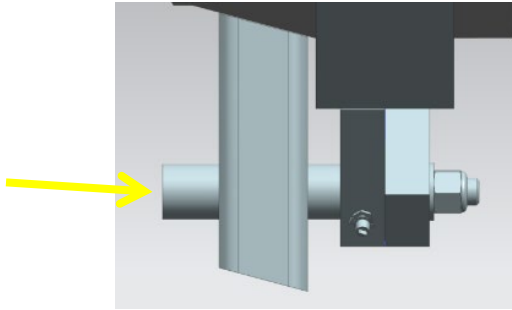

Figure 7: Remove Pivot Pin
- H. Punch out the Clamp Ring Pivot Pin by sliding pin through hole, see Figure 7.
- E. If verification after tack weld of pivot pin fails, use hoist to lift clamp ring assembly so that clamp ring pivot pin is in contact with the upper surface of the pivot plate through holes, see Figure 7.